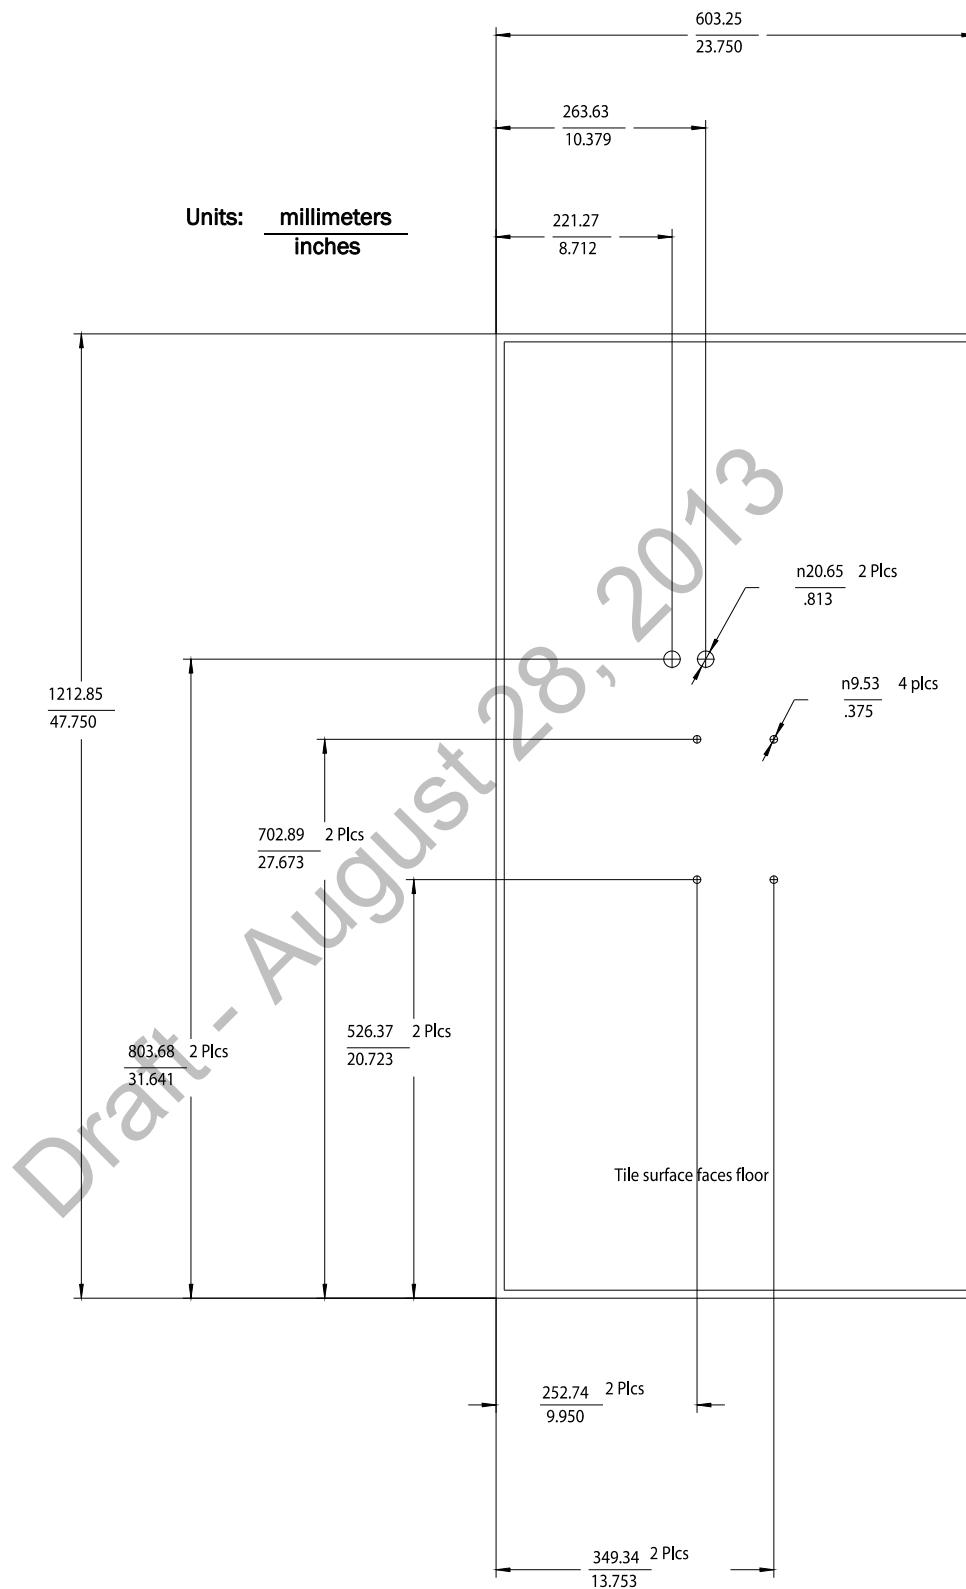

Figure 2-11: Core AP Below Ceiling Tile Hole Locations and Dimensions
3. Refer to Figure 2-11 for all dimensions and hole locations. Place the mounting rails across the tile (underside of tile). For ceiling tiles that are smaller than standard 2' x 4' size ceiling tile, the mounting rails can be cut down in length at the u-shaped cutouts.